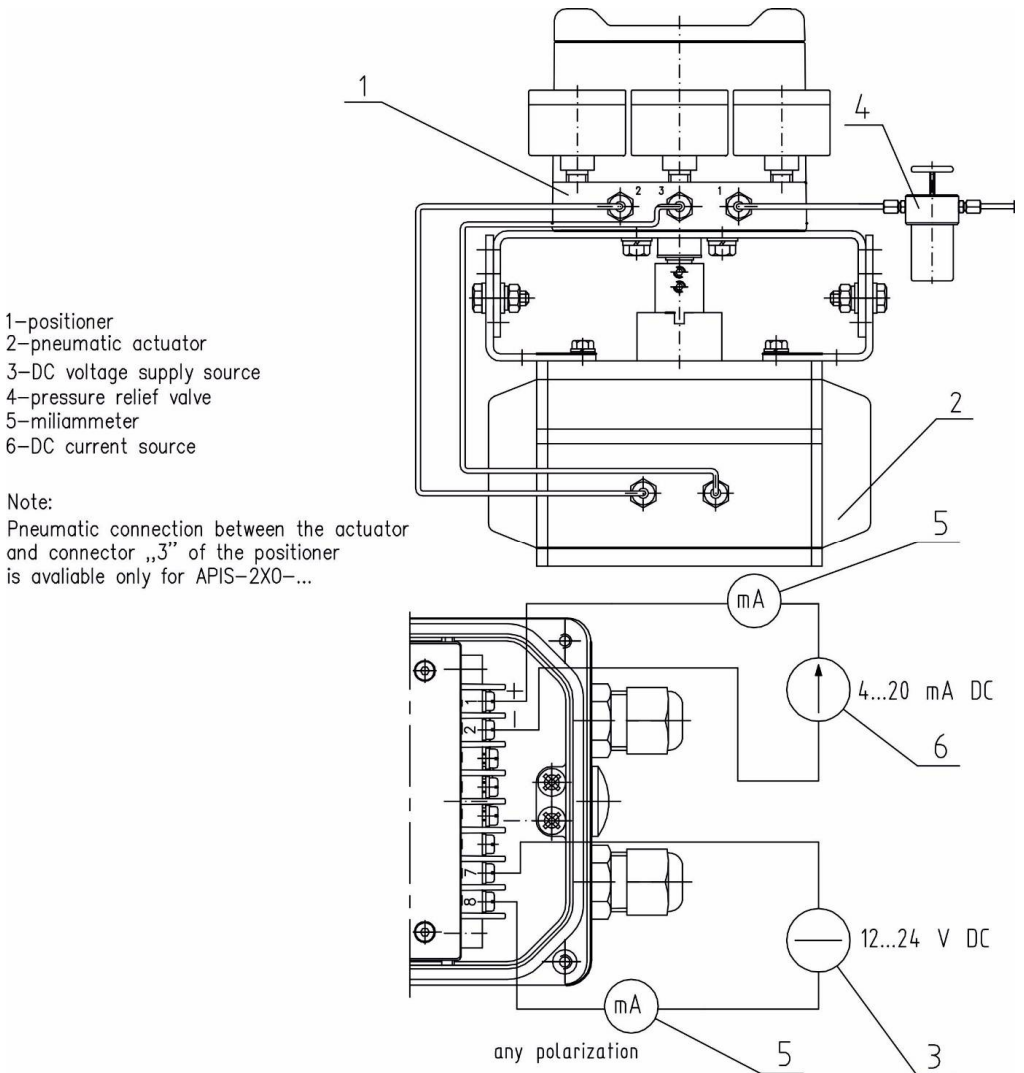

Fig. 18. Diagram of wiring for launching APIS-1X0-... and APIS-2X0-... positioners single/double-acting rotary actuator)
- Positioner APIS-1X0-... and APIS-2X0-... installed on the actuator acc. to sect. 10.5. should be connected acc. to the diagram presented in Fig. 18.